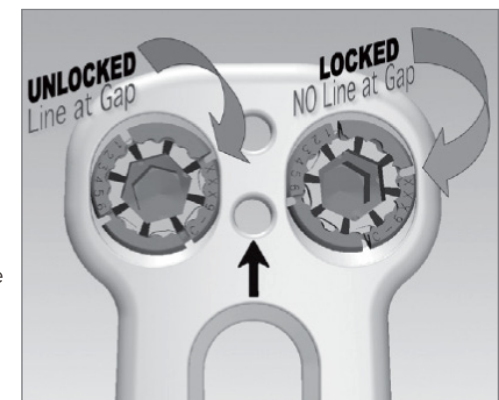
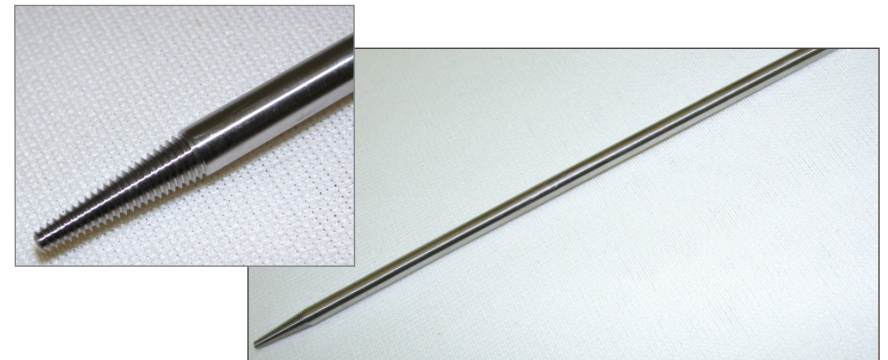

Figure 50
Figure 51
- Visual – the etched lines on the inner cam are no longer in alignment with the four slots on the outer screw (fig. 50)
- Visual – the etched lines on the inner cam are no longer in alignment with the four slots on the outer screw (**fig.50**)
If a bone screw needs to be removed, turn the shaft 1/16 rotation counter-clockwise to disengage the screw locking mechanism lock before removing the bone screw. If the bone screw cannot be removed using the Self-Retaining One-Step Locking Screwdriver (C-7025), a Screw Extraction Tool (C-7031) is used (**fig. 51**). The Screw Extraction Tool is loaded in to the Handle for AO Shafts (C-7028), and the distal tip is placed into the center of the bone screw and turned counter-clockwise, backing out the bone screw. Once the bone screw is removed, the bone screw must be properly discarded.
With the cervical vertebral column section containing the plate clearly exposed, use the Self-Retaining One-Step Locking Screwdriver (C-7025, fig. 41) to unlock the screw locking mechanism and engage the screwdriver. Then engage the locking mechanism by a 1/16 rotation counter-clockwise of the locking mechanism and unlock the screws (fig. 50). Remove each bone screw using C-7025, by turning the bone screw counter-clockwise until the bone screw is completely disengaged from the vertebral body and cervical plate. Repeat this for all remaining bone screws (on the Semiconstrained and QuickPlates, remove the screws from the two inferior holes first) and properly dispose of all screws and plates when completed. If the bone screw cannot be removed using the Self-Retaining One-Step Locking Screwdriver (C-7025), a Screw Extraction Tool (C-7031) is used (fig. 51). The Screw Extraction Tool is loaded into the Handle for AO Shafts (C-7028), and the distal tip is placed into the center of the bone screw hex and turned counter-clockwise, backing out the bone screw.